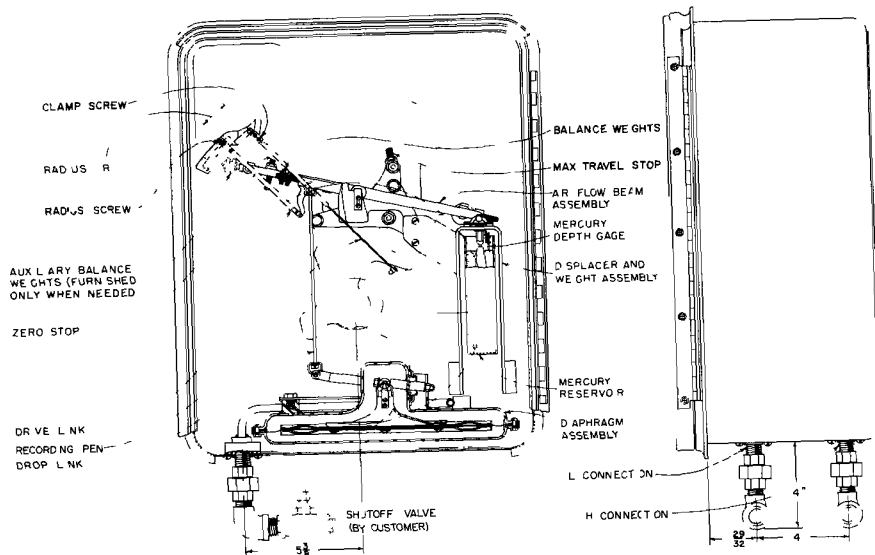

FIGURE 1 Typical Assembly of Type CE Air Flow Meter
3. Assemble drop link to beam as shown in Figure 1. Moving parts must be free of friction.
5. Insert displacer in reservoir (see Figure 1).
The Type CE Diaphragm Operated Air or Gas Flow Recorder or Indicator is factory calibrated and should require no further adjustment However, before placing in service, check calibration as outlined below Refer to Figure 1.
b If beam rests against stop, loosen two clamp screws (Figure 1) holding pen or pointer arm to yoke and set pen or pointer on zero chart or scale line Tighten screws
5 To re establish radius 'R' (Figure 1) to give correct pen or pointer travel for instrument range
6. With beam resting against zero stop, the mercury depth gage should just touch surface of mercury without denting it. If not, adjust mercury depth gage (shown in Figure 1) to desired setting for a future reference point.
7. To place instrument in service, connect unions (and open shut off valves if provided) below Recorder or Indicator case (Figure 1)
The Type CE Diaphragm Operated Air or Gas Flow Recorder or Indicator (Figure 1) measures a pressure drop across an orifice or boiler and records or indicates the measurement in terms of flow on a uniformly graduated chart or scale